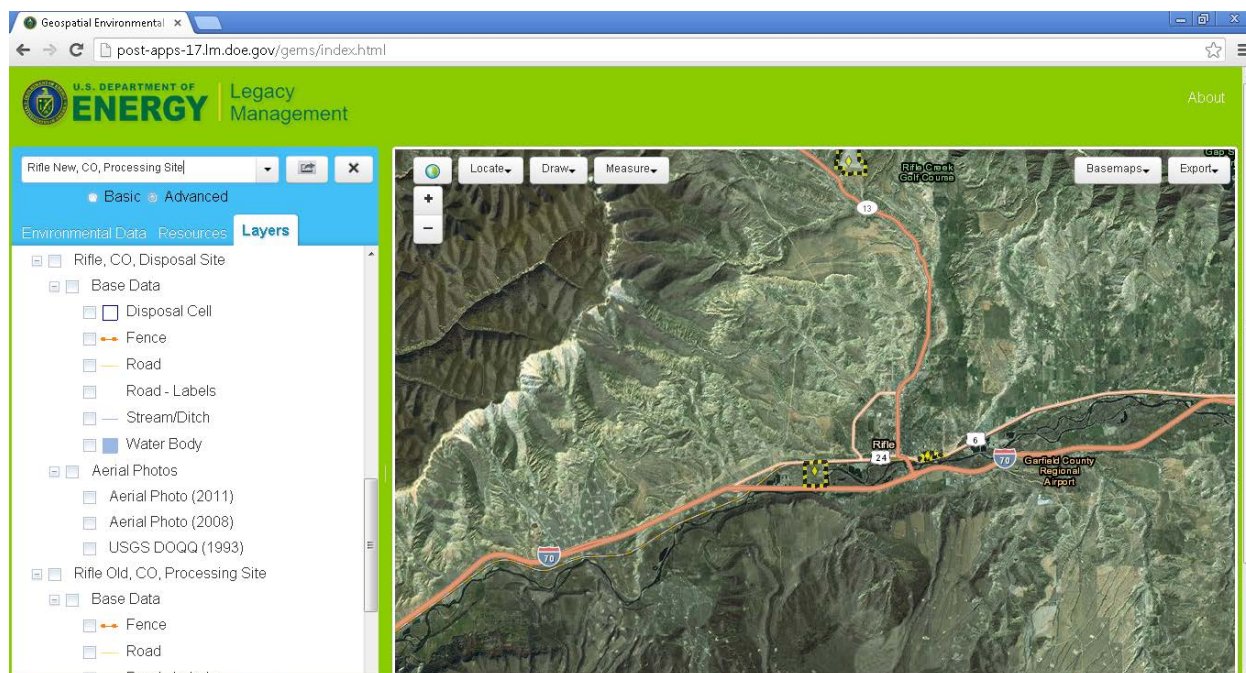

Fig. 7. Screenshot of the feature for viewing multiple LM sites.
- View base data, such as fences, roads, and water bodies, for multiple LM sites (**Fig. 7**)